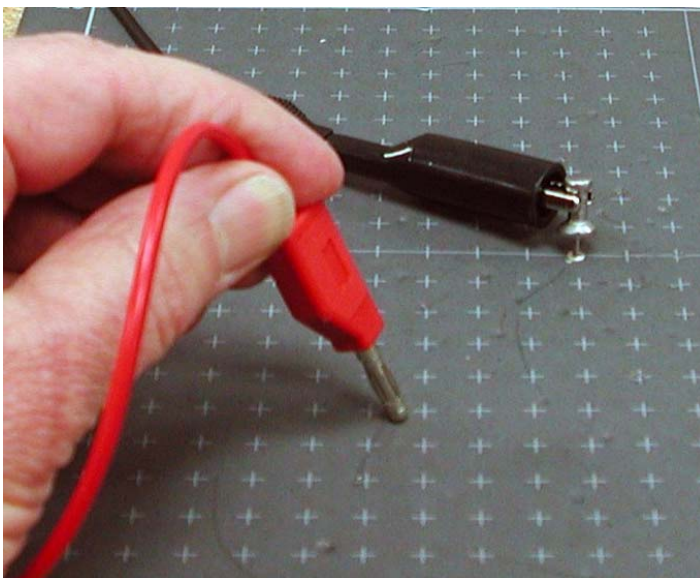

Figure 4: Probe Position
2. Trace the 4.0 V equipotential. To do this locate a place on the paper near the negative electrode where the voltage is 4.0 V. Try to keep the probe at the same angle (see Figure 4 for example) and use the same pressure for each reading (the voltage is pressure sensitive). When you find a 4.0 V spot apply more pressure and rotate the probe to make a small depression in the paper (some depressions show in Figure 4). Then locate more 4.0 V spots to make a surface (actually a line) surrounding the negative electrode. *Hint:*